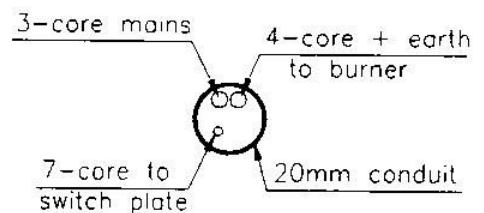

Fig. 10 Cable conduit layout
1. Pass the 4-core plus earth cable with plug through the grommet in the wall plate and then through the 20mm conduit, followed by the 3-core mains cable and the 7-core switch cable (Fig. 10). All cables should be routed as shown in Figs 3, 4 or 5.